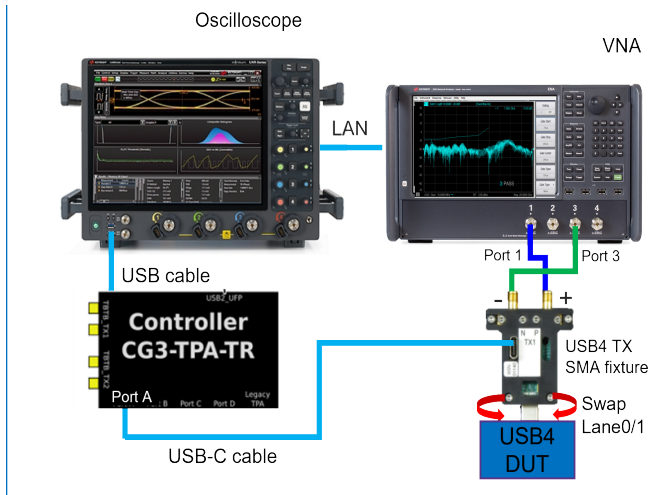

Figure 164 Tx Return loss test setup with Tx SMA test fixture
- 1 For the physical connections between the DUT & the Oscilloscope, see the connection diagrams in Figure 164 and Figure 165.